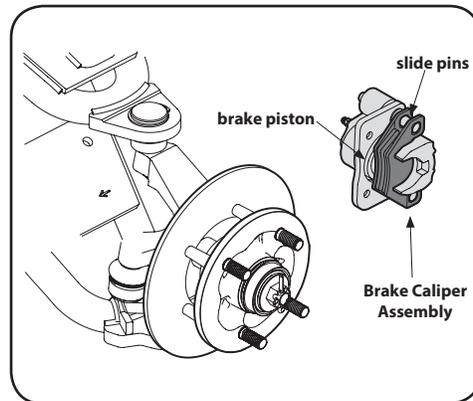

Figure 6-14
- Remove brake caliper assembly from brake disc. See Figure 6-14.
- Clean and lube slide pins. See Figure 6-14.
- Press in brake piston. See Figure 6-14.